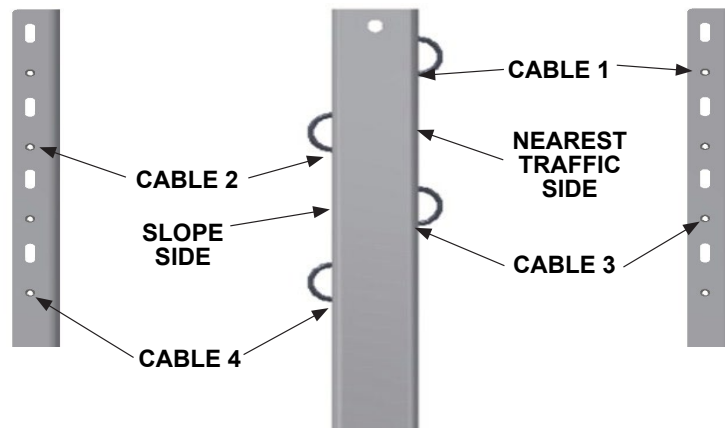

Figure 9
1. Locate the holes for the Cable Lock Bolts for each cable on the CET™ U-Shaped Post One. See Figure 9.